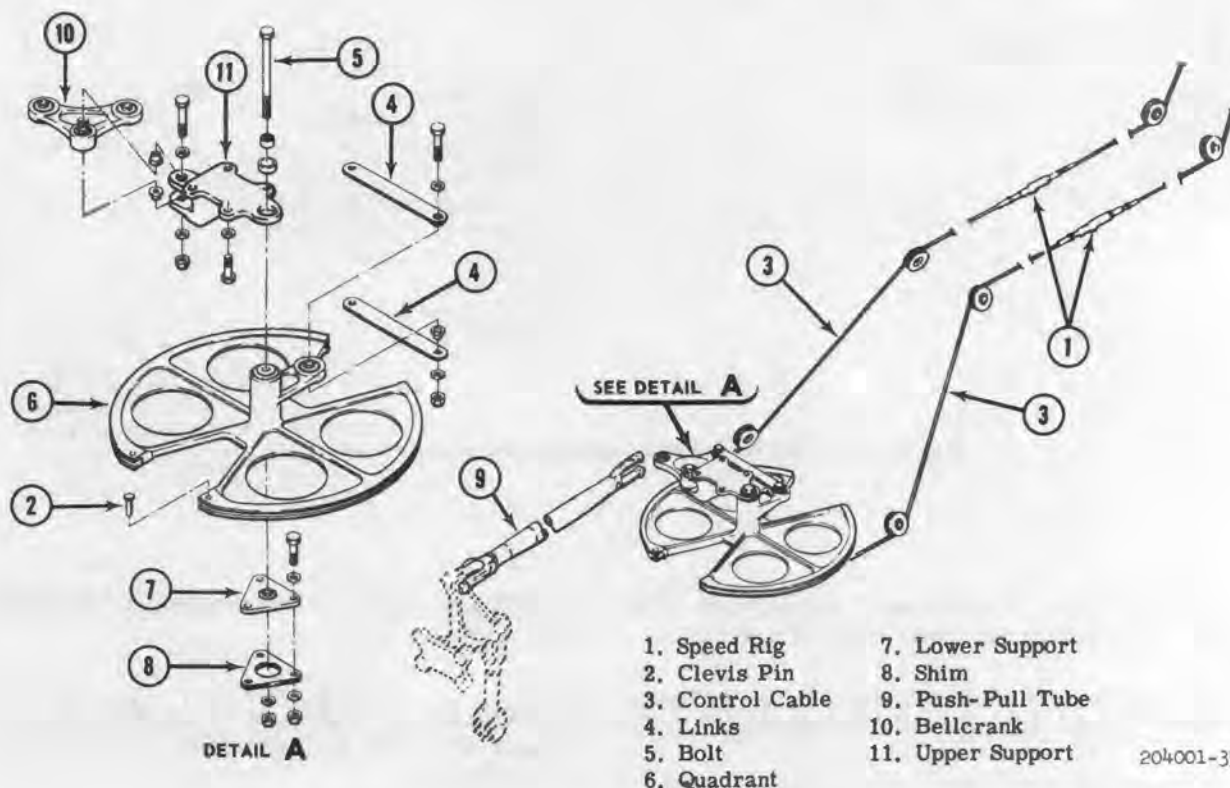

Figure 9-13. Tail rotor control quadrant
a. Remove tailpipe cowling for access to head of bolt (5, figure 9-13).
- a. Position upper support assembly (11, figure 9-13) on structure and secure with four bolts. Lockwire heads of bolts.
- b. Position wide section of bellcrank (10) in place in upper support (11) and install bolt.
- c. Position quadrant (6), lower support (7) and shim (8) to provide 0.000 to 0.010 inch clearance between support and quadrant. Install bolt (5) with washer, nut and cotter pin.
- d. Position links (4) and secure to bellcrank and quadrant.
- e. Attach push-pull tube (9).
- f. Position control cables (3) and secure to quadrant with clevis pins (2). Attach speed rigs (1).